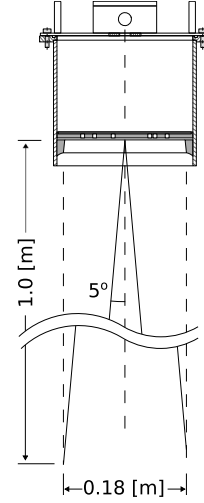

Figure 1.1: The 5° [deg] half top angle of the F08 antenna beam.
- It is advised to choose a mounting position such that the WaveGuide radar beam is free of large reflecting obstacles (the beam of the F08 antenna can be approximated to a conical shape having a 5° [deg] half top angle as shown in Fig. 1.1). The minimum horizontal distance between a sensor and any obstacle in the beam's path should be at least 10% of the vertical distance between the sensor and the obstacle. This does not only include horizontal objects in the beam's path but also vertical structures.